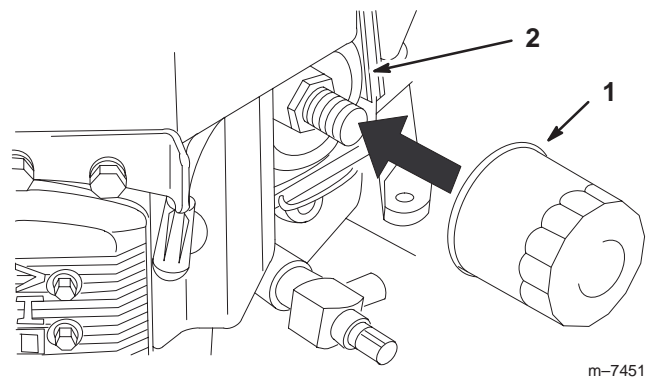

Figure 29
2. Remove the old filter (Fig. 29).
3. Apply a thin coat of new oil to the rubber gasket on the replacement filter (Fig. 29).
4. Install the replacement oil filter to the filter adapter, turn the oil filter clockwise until the rubber gasket contacts the filter adapter, then tighten the filter an additional 3/4 turn (Fig. 29).